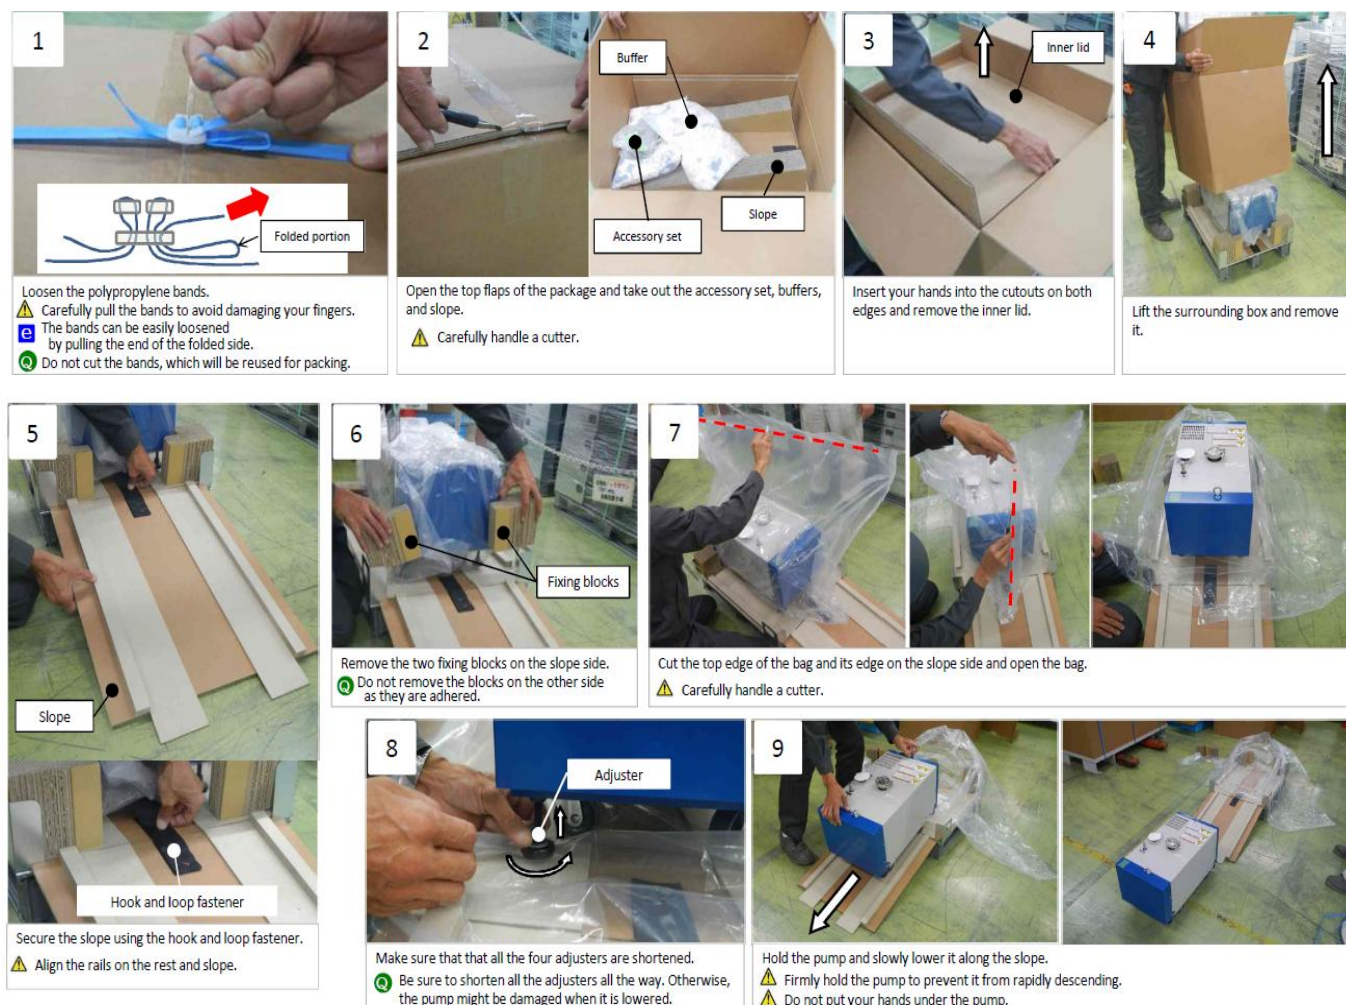

Figure 10 - Unpacking the Ebara pump
1. Unpack the pump (Figure 10).